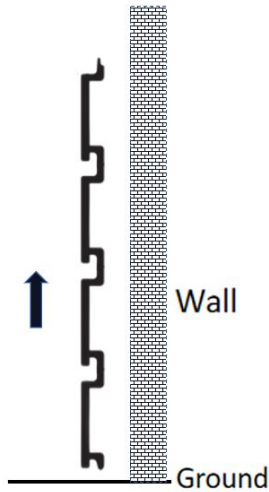

Figure 1
1. Install the direction of the slatwall panel, see Figure 1.